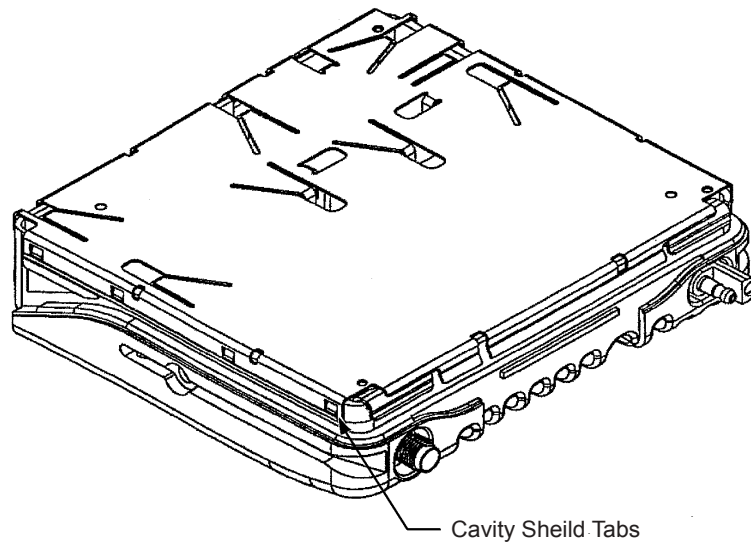

Figure 5-4. Removing the Cavity Shield
2. Loosen the cavity shield by prying each of the eight tabs away from the chassis. Release the four tabs on one side first and then repeat the operation on the other. Be careful not to pry the tabs any more than is necessary to free them from their respective retaining posts (see Figure 5-4).